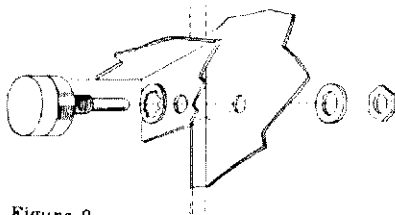

Figure 9
- () Mount the sensitivity control in location M. See Figure 9 for details of hardware assembly. Keep the lugs exactly as indicated in Pictorial 3. On some controls, a small locating lug protrudes from the front of the control housing. If this interferes with the mounting, cut it off or bend it over.
- () Mount the phone jack (see Figure 9 and Pictorial 3) in location L. Keep all lugs oriented exactly as indicated.
- () Attach the free end of the 1 1/2" lead from M3 to the ground lug of the 1-lug and ground terminal strip (NS).
- () Attach the free end of the 47 K Ω resistor (yellow-violet-orange) to terminal strip E2 (NS).
- () Attach the free end of the 1 K Ω resistor (brown-black-red) to lug L2 (NS) on the phone jack. Be sure to use the previously prepared insulated sleeving.